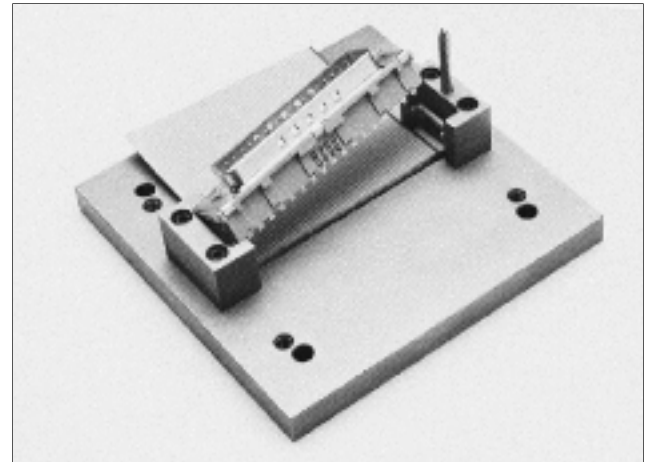

Figure 7
3. Place the cable/cover sub-assembly between the guides on the locator plate, cover side down. (See Figure 7)
4. Position and orient connector body, contacts down, over the cable/cover sub-assembly, aligning cover with the body. (See Figure 7)